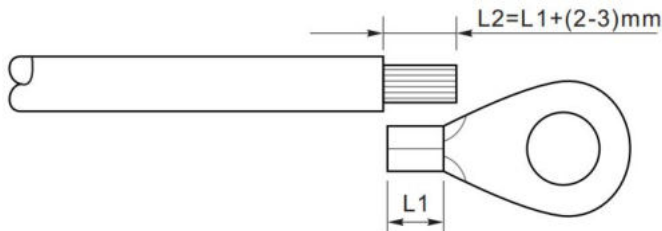

Figure 4-2 Grounding connection instruction (1)
**Step 1:** Remove the insulation layer with an appropriate length using a wire stripper shown as figure 4-2)